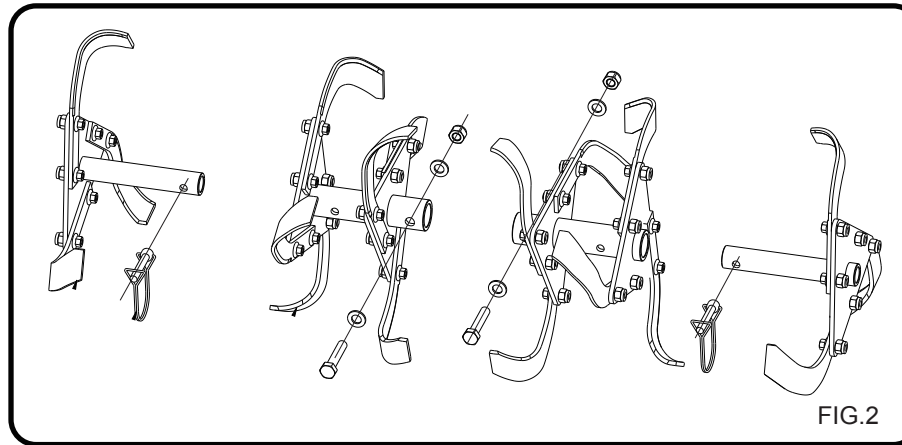

FIG.2
Step 2: Installing The Tines. (See Fig.2)
- 1.Slide the tines onto the tine axle. Install the internal tines first as shown the direction of Fig 2. Sharp edge of the front and top tines should face down and forward to till the ground.
Install both the outside tines and the inner tines in the way as shown in the Fig 2.